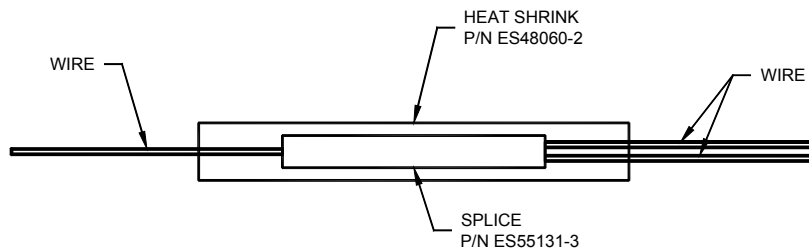

Figure 3
6. Solder the wires to new rheostat as shown in Figure 2 (new configuration). All soldering to be accomplished in accordance with MIL-STD-2000A and heat shrink all soldered connections. Alternatively, if the two wires that were previously connected to the resistor are not long enough to reach the new rheostat, it is permissible to use the provided splice to extend the length as shown in Figure 3.